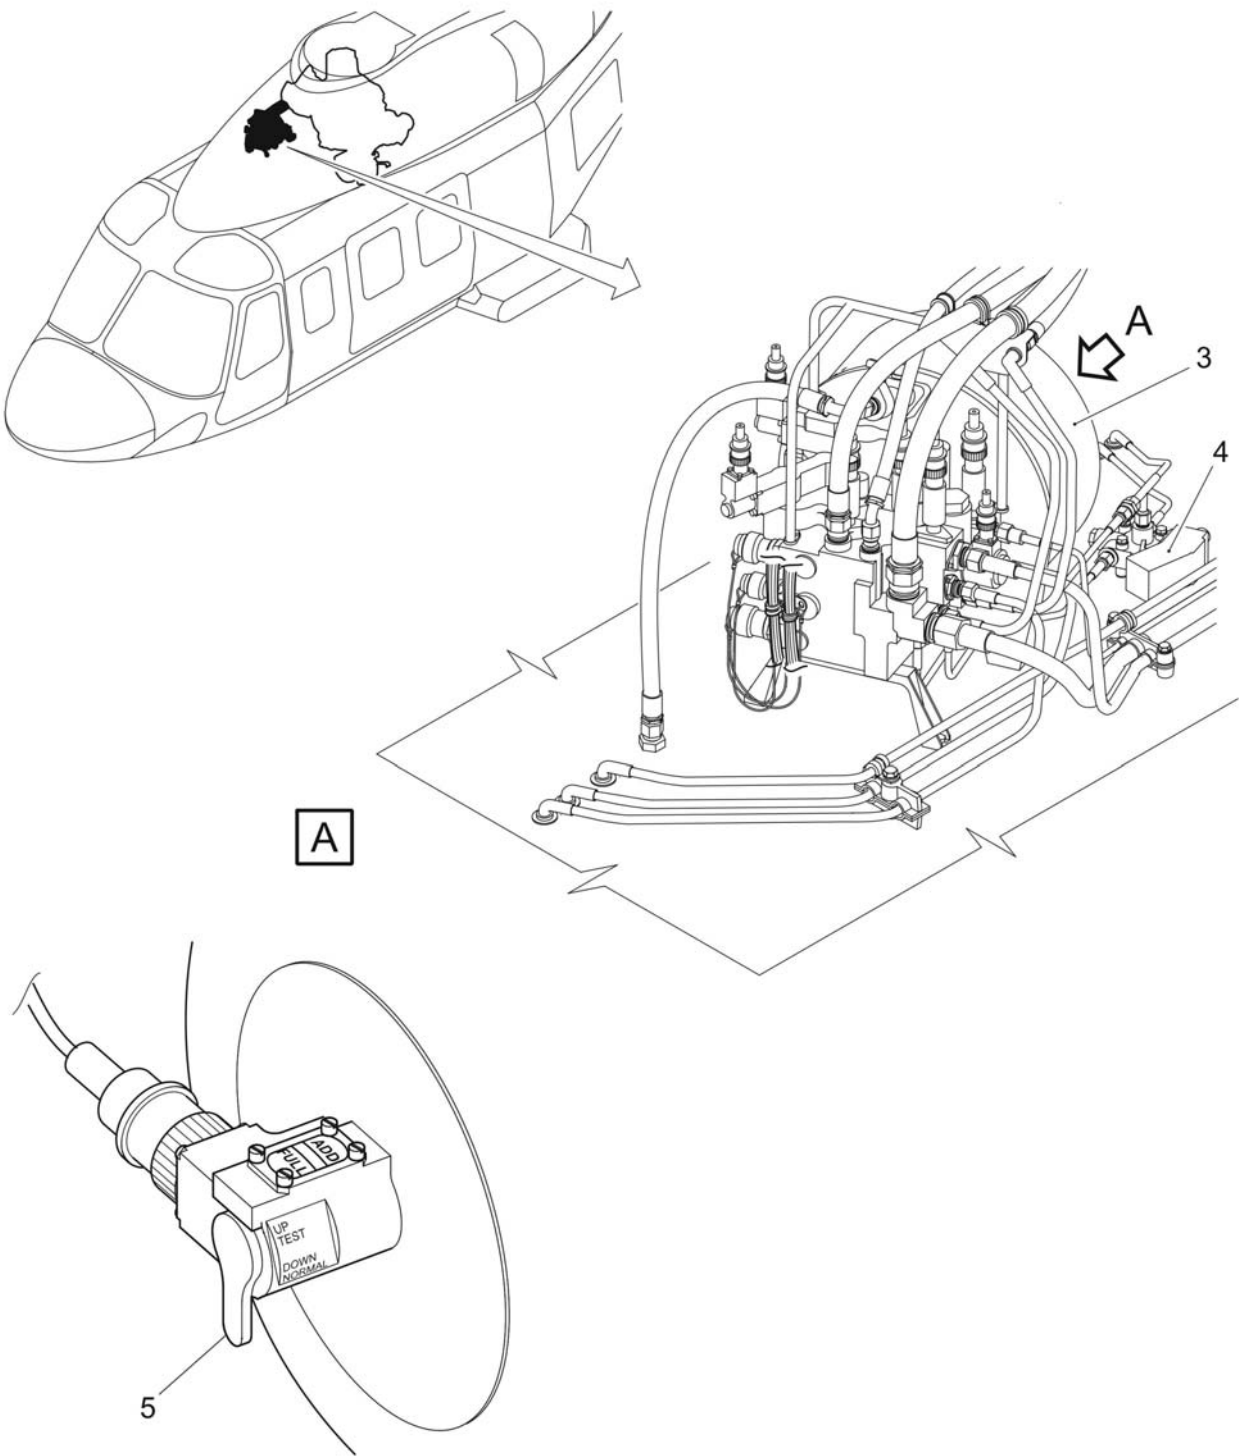

Figure 2
4. Do the operational check of the Tail shutoff valve (4). Refer to AMP, see DM no. 39-A-29-12-04-00A-321A-A.
5. With reference to figures 2 and 3, do the operational check of the PCM2 Flight control shutoff valve as follows:
and to Figure 2 item (5)